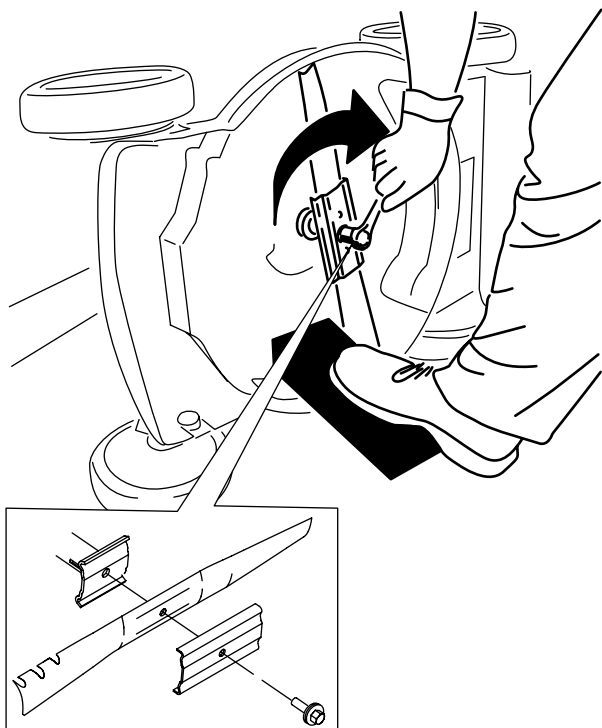

Figure 25
5. Install the new blade and all mounting hardware (Figure 25).